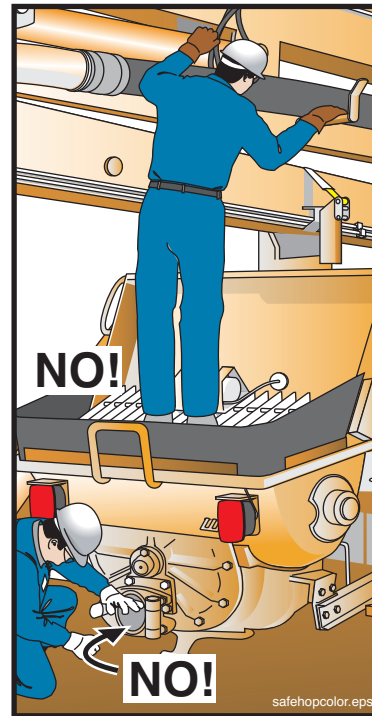

Figure 80
16.19  **WARNING** Crushing/amputation hazard! Never put your hands, feet, or any other body part into the water box, concrete valve, or hopper when the hydraulic system is operational or ready to operate! Never stand on the hopper grate! (See Figure 80.)